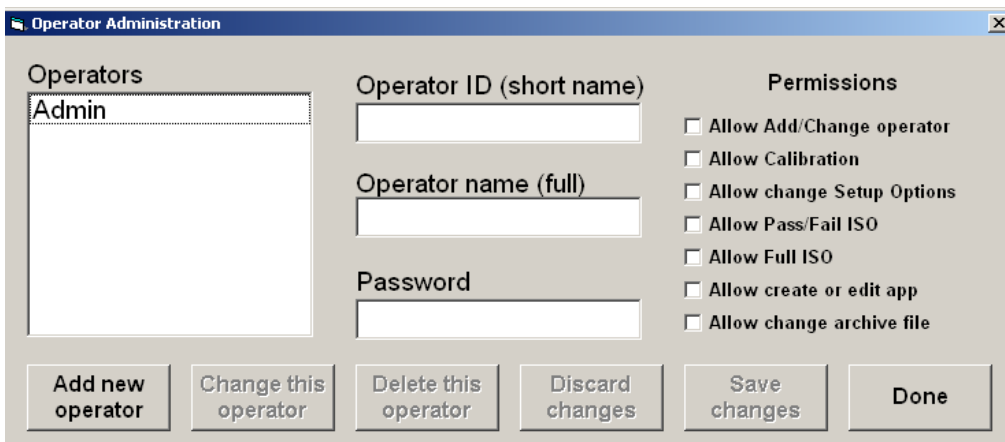

Figure 46: Operator Administration window
84. Click the **Setup** tab and then click the **Setup Operators** button; the **Operator Administration** window appears (Figure 46).